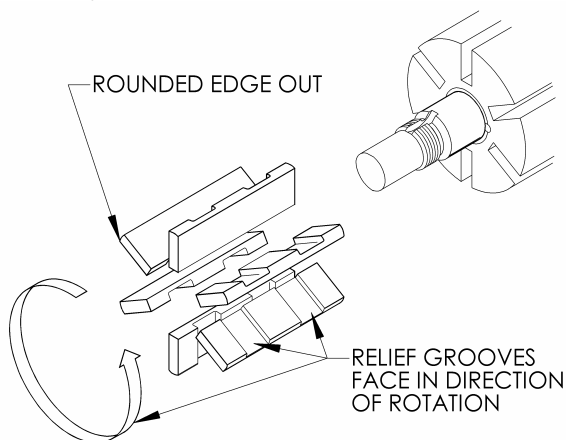

Figure 8 – Vane Installation
3. Turn the shaft by hand until a vane (14) comes to the top (12 o'clock) position of the rotor. Remove the vane.
4. Install a new vane (14), ensuring that the rounded edge is UP, and the relief grooves are facing towards the direction of rotation. See Figure 8.
6. Carefully install the head assembly (20) on the pump casing (12). Rotate the head so that the drain hole, located at the back of the bearing cavity, faces downward when the pump is mounted for operation and the disc relief hole is located at the intake port. Install and uniformly tighten four head capscrews (21) 90° apart, torquing to 30 lbs ft (40.7 Nm).
7. Hand pack the ball bearing (24) with grease. See the "Lubrication" section for recommended greases.
8. Install the bearing (24) into the head recess. The bearing balls should face outward, with the grease shield inward. Ensure the bearing is fully and squarely seated in the head (20).
10. Remove the vanes (14) and push rods (77) from the rotor and shaft assembly. Inspect for wear and damage, and replace as follows:
- b. Partially install the non-driven end of the rotor and shaft (13) into the open side of the pump casing (12).
- c. Leave part of the rotor outside of the casing (12) so that the bottom vanes (14) can be installed and held in place as the push rods (77) are installed in the push rod holes of the rotor. Insert the new vanes into the rotor slots with the rounded edges outward, and the vane relief grooves facing TOWARDS the direction of rotation. See Figure 8.
- d. After the bottom vanes and push rods are installed, carefully insert the rotor and shaft (13) fully into the casing (12) and through the installed head (20).
- e. Install the remaining vanes (14) into the top positions of the rotor.
11. Install the inboard head with O-ring (72), mechanical seal (153), disc (71) and bearing (24) as instructed in steps 3 through 8.